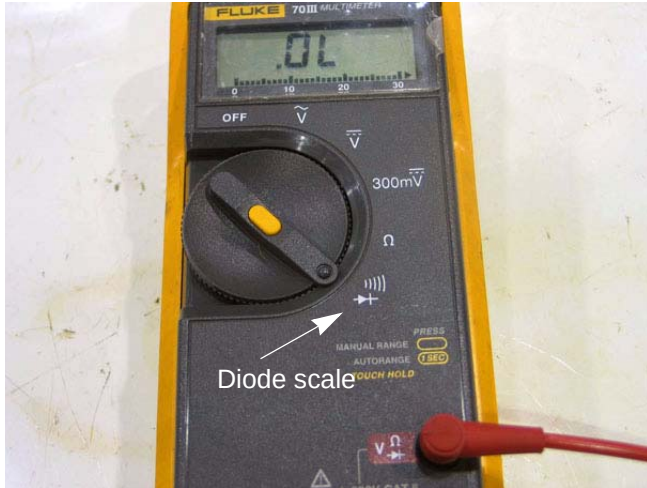

Figure 7.47
- 13b. Set the DVOM to the diode or Ω scale. See Figure 7.47.